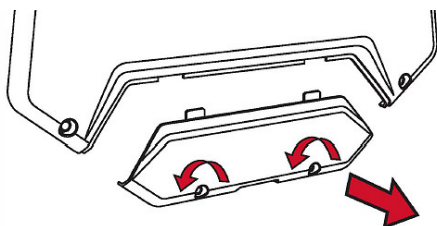

Fig. 7: Open the cover
Step 1: Loosen the screws on the left side of the maintenance cover (Fig.7) and remove them.